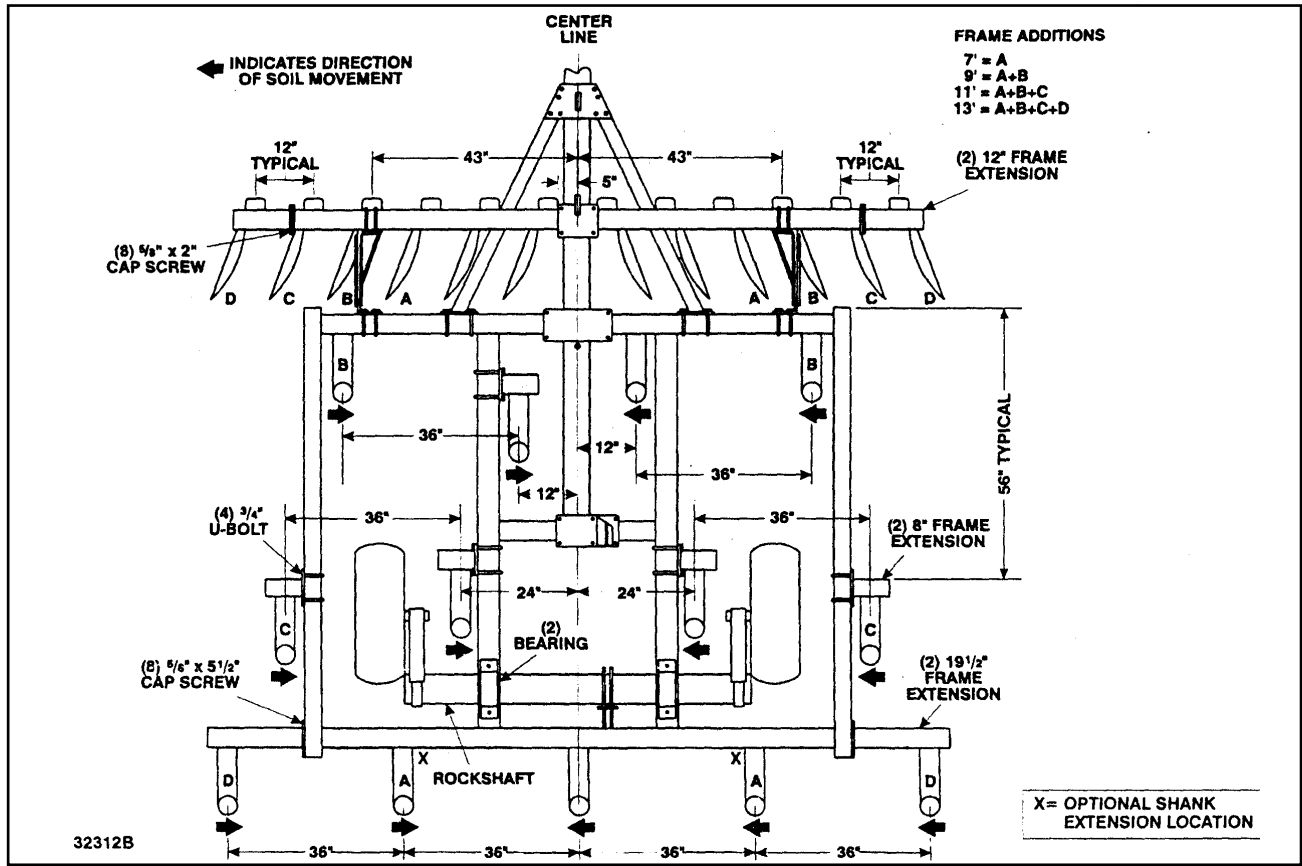

Figure 3-38 9'-6" Main Frame Assembly Layout - Single Axle, 12" Shank Spacing
a. Attach frame extensions as required. Refer to assembly layouts (See Figures 3-38 - 3-45).
Note: See Figures 3-38 - 3-45 for assembly layout specifications.